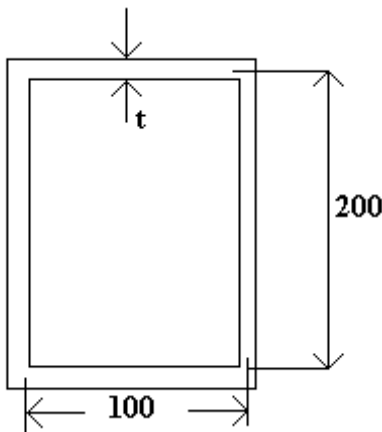

Figure 1:
5. Box beam of uniform thickness $t = 3\text{mm}$ is subjected to a shear force of 20kN. Determine the variation of shear flow through out the cross-section. Shown in Figure 1. [16]